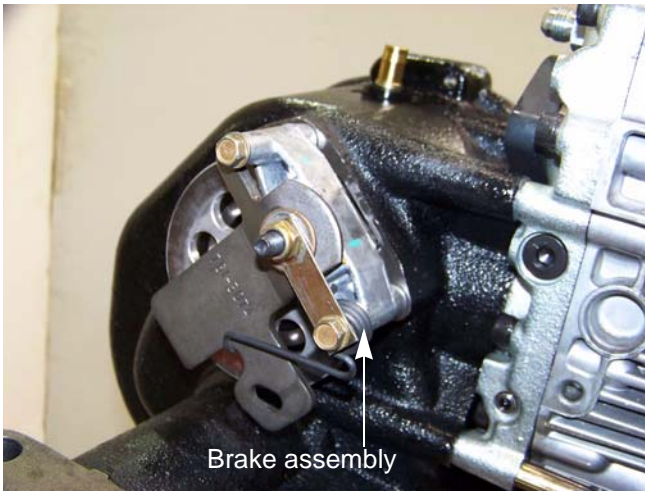

Figure 5.35
6. Remove the two screws that secure the brake assembly to the right transmission housing using a 3/8" wrench. See Figure 5.35.